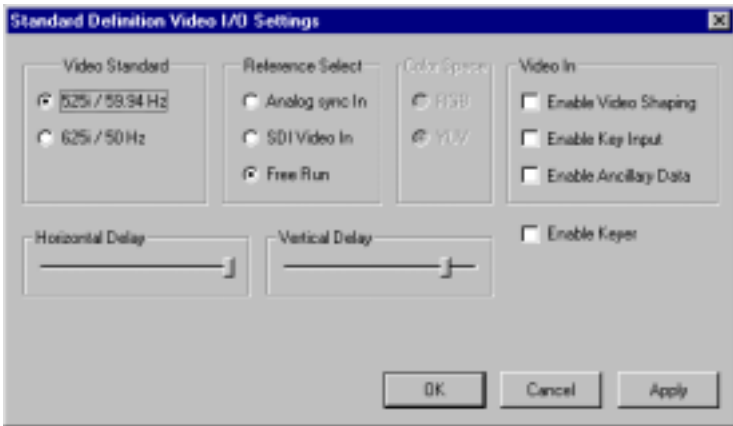

Figure 2-9. SD Video I/O Board Control Panel
Figure 2-9 shows the **default settings** for this control panel, with the exception of the **Video Standard** drop-down. This setting will vary in accordance with your facility’s video standard.
- [] 7. If **TCP/IP** appears on the list, it is already in the system. Click **Cancel**, then return to the **Network** window (Figure 2-9).
If **TCP/IP** does not appear in the list, click **Have Disk**. Follow the on-screen installation directions. Return to the **Network** window (Figure 2-9).